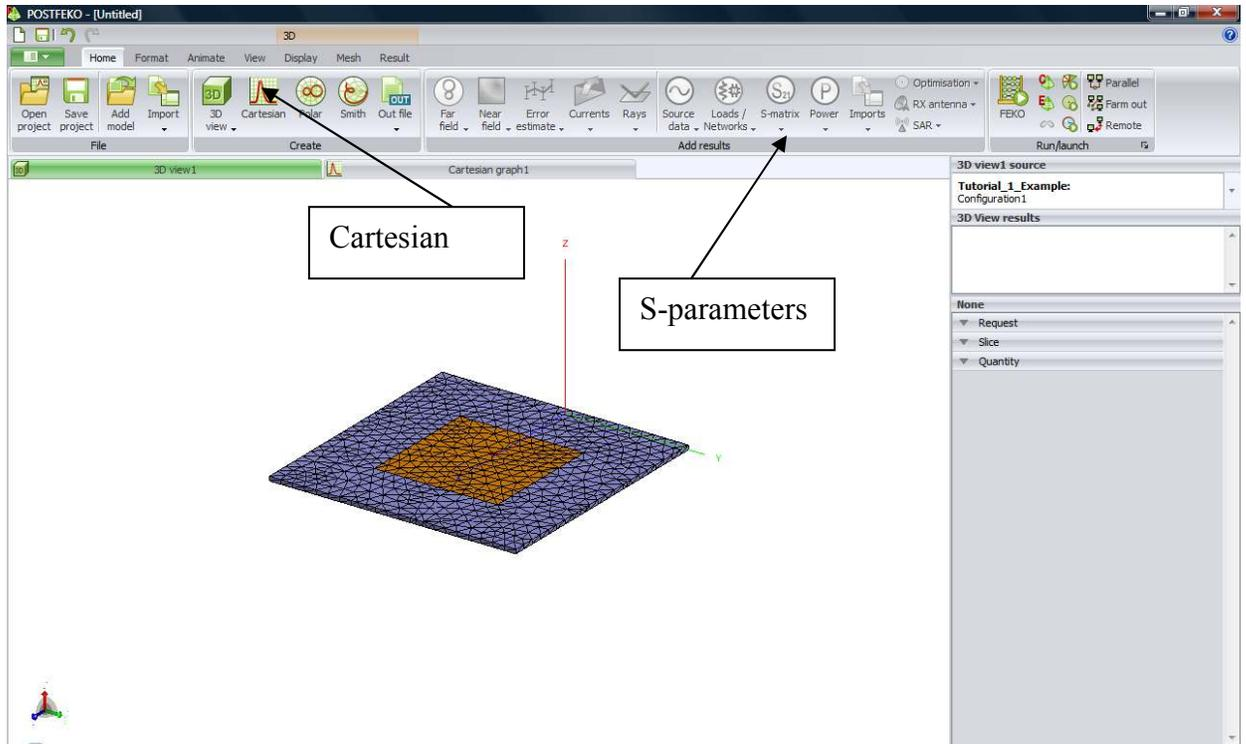

Figure 20.
26. Click on the “Cartesian” icon, and a graph with Cartesian coordinates appears. Select the “S-Matrix” icon as shown in Figure 20. You will get the  $|S_{11}|$  measurement as a function of frequency. Choose the “dB” display.